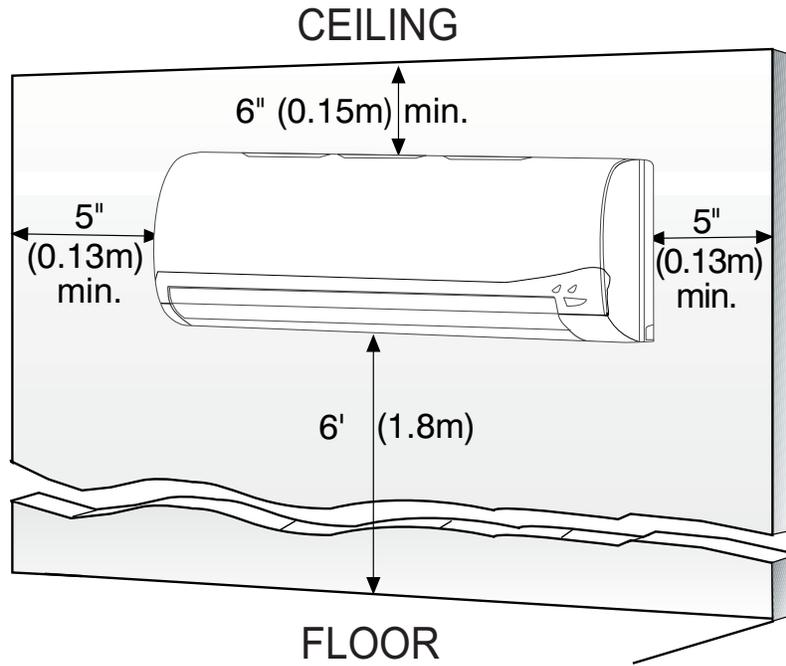

Fig. 3 – Indoor Unit Clearance
Allow sufficient space for airflow and servicing unit. See Fig. 3 and 4 for minimum required distances between unit and walls or ceilings.
- A location which provides appropriate clearances as outlined in Fig. 3.
2. The mounting plate should be located horizontally and level on the wall. All minimum spacings shown in Fig. 3 and 5 through 8 should be maintained.